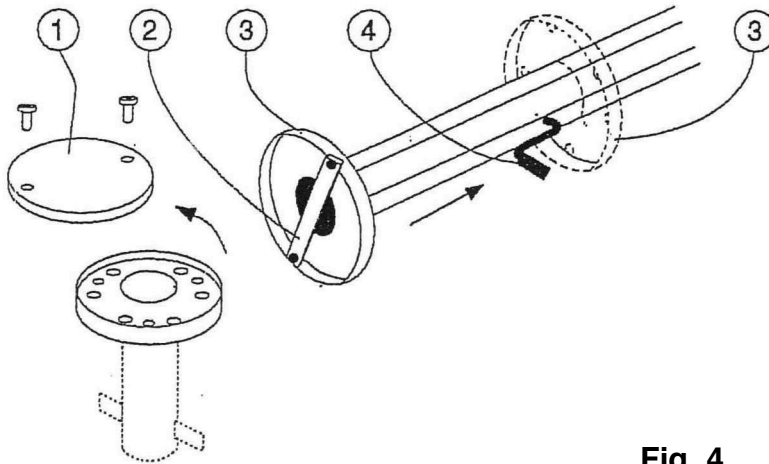

Fig. 4
- Unscrew the cover of the ground socket (1) (Fig. 4).
- Remove the fixing crosspiece (2) from the mast base and push the wraparound ring (3) up to the crank opening (4), pad against the mast and secure with the crank handle inserted.
- Remove the revolving holders (11), place them in a plastic bag and store them in the ground socket.
- Screw the hinged disc and the re-lowered wraparound ring with the fixing crosspiece (2) (Fig. 4).